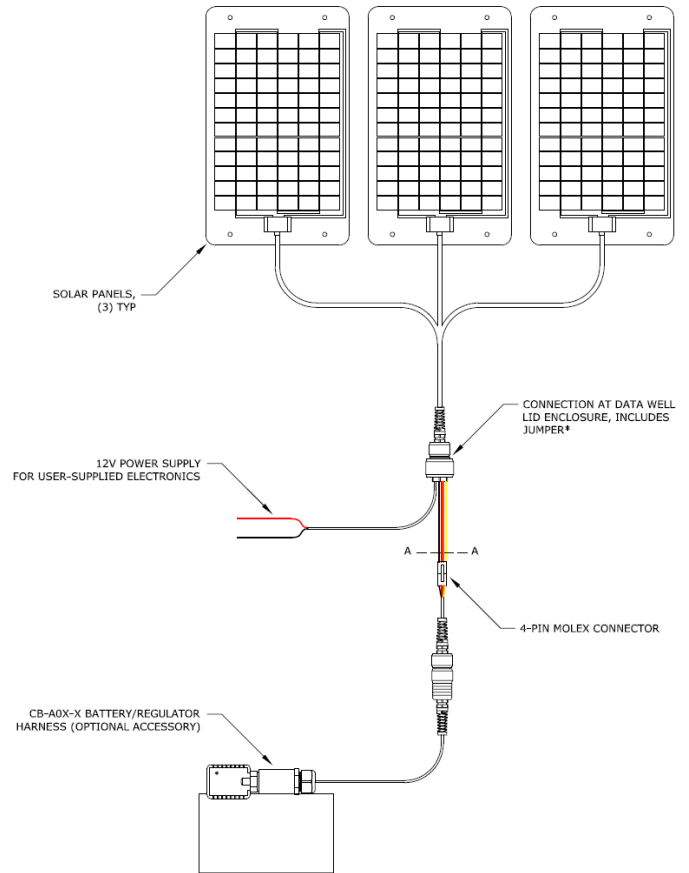

Figure 12: Wiring Schematic
Figure 12 shows a schematic drawing for the wiring of the CB-650 power supply. The system includes (3) 30-watt solar panels that connect through the *SOLAR* port on the data well plate to the *CB-A05-2/3* or user-supplied battery/solar regulator harness. A wire lead is provided to supply 12V DC power to electronics inside the data well (red = +12V, black = GND).
For systems with user-supplied battery and solar regulator, the battery and regulator can be connected through the 4-pin Molex connector or by cutting the wires at section A-A in Figure 12 and splicing the connections. In these situations, reference the signals listed in Table 2.